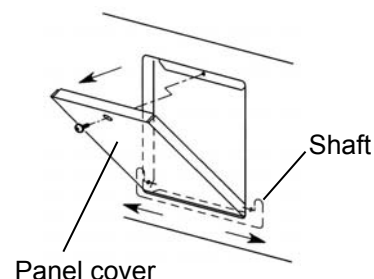

Fig. 1
2. Unscrew the screw fixing the panel cover at the space for temperature recorder and open the panel cover. [Fig. 1]
3. Remove the panel cover from the shaft by pushing the shaft edge to the right and left side respectively. [Fig. 1]